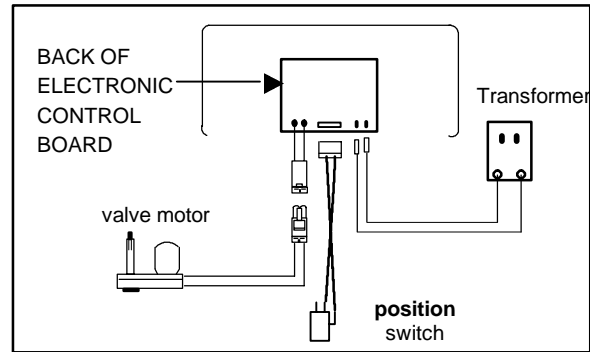

Figure 2
4. Carefully disconnect wiring harness from position switch. **Figure 2.**
5. Carefully unplug the motor terminals from the back of the electronic control board. **Figure 2.**
21. Carefully reconnect the motor terminals to the back of the electronic control board. Reattach the wire harness onto the position switch. **Figure 2.**